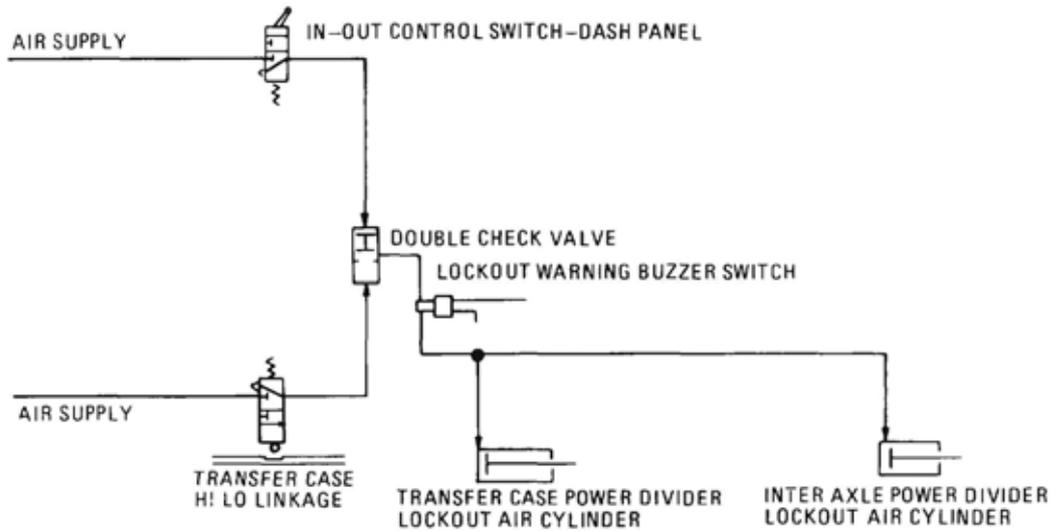

Figure 74 Power Divider Lockout System
**120.** A driver controlled, air actuated, power divider lockout is fitted to the vehicle. This lockout is only used when maximum traction is required and only for short periods. When the driver actuates the control valve lever in the cabin, air pressure forces a piston in the air shift cylinder, which is mounted in a separable housing on the power divider, to actuate a gear-type sliding clutch lockout (Figure 74). The sliding clutch lockout engages with the mating teeth of the power divider outer cam, locking together both axles in positive through-drive for maximum traction with no differential action taking place between the intermediate and rear axle. The sliding clutch lockout is normally held out of action by a compression spring, which acts against the piston in the air shift cylinder. When the lockout is engaged, an electric buzzer in the driver's compartment sounds continuously. This is done to remind the driver to release the lock as soon as normal traction is regained.